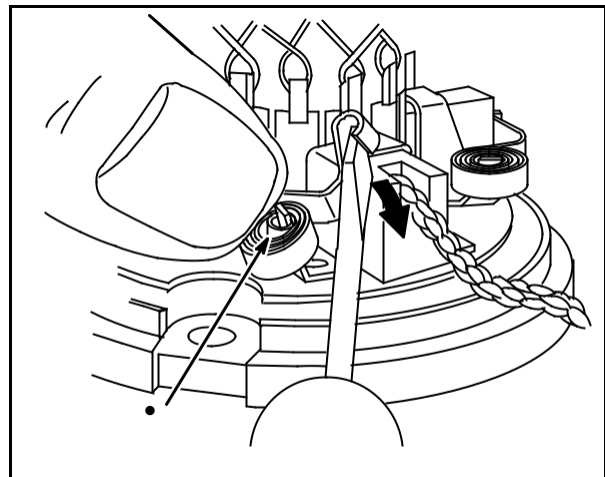

Fig. 21
Position coil spring over tab (1), **Fig. 21**.